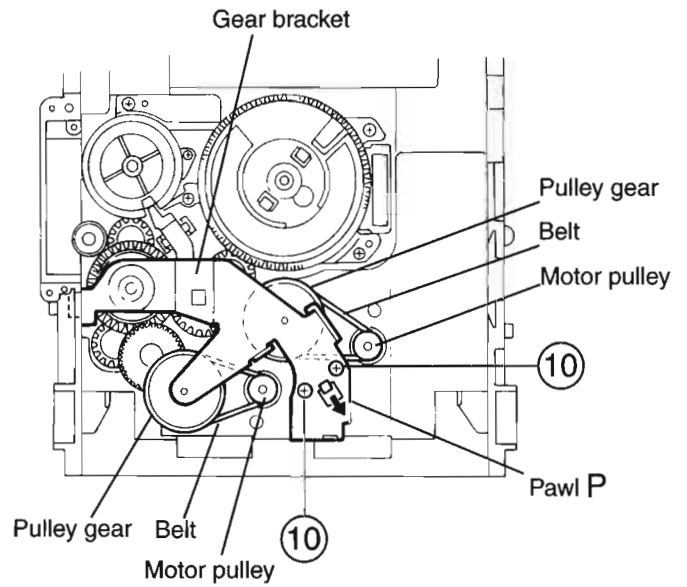

Fig.18
4. While turning the cam gear L, align the pawl "O" position of the select lever to the notch position(Fig.18) on the cam gear L.
5. Remove the four screws 9 retaining the cam unit(cam gear L and cams R1/R2 assembly)(See Fig.18).
(See Fig.18~21)**